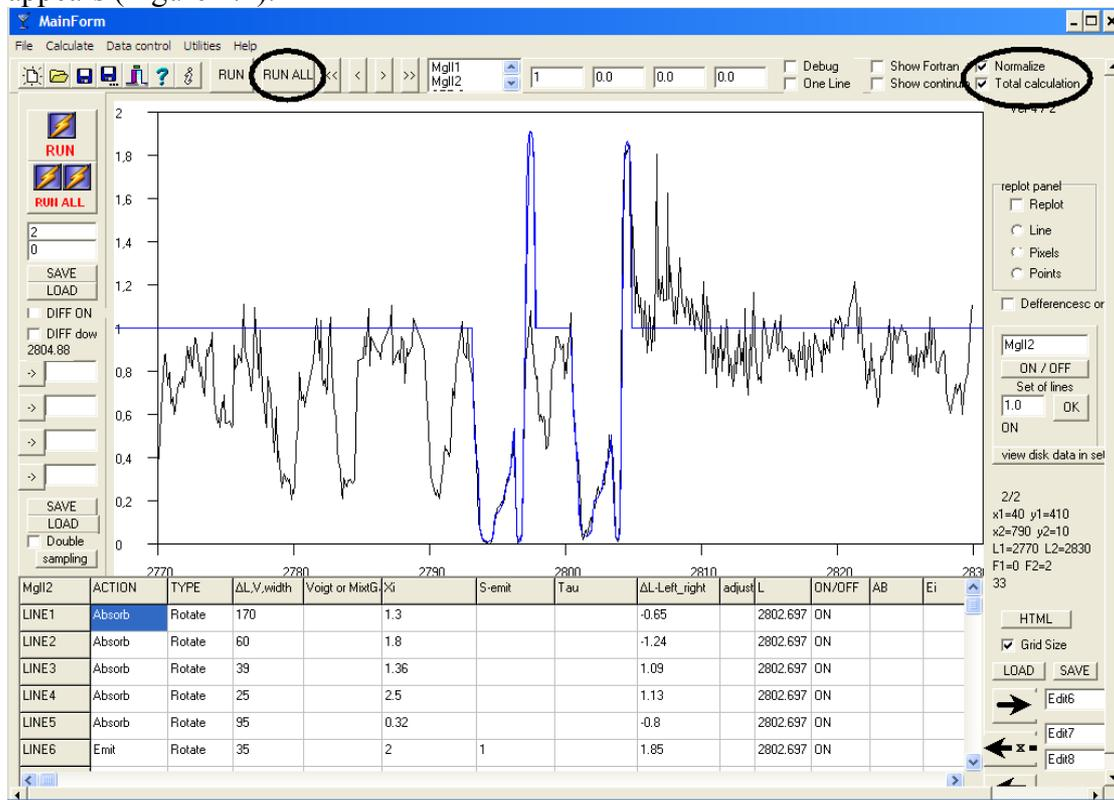

Figure 4.1
Step 2: Activate **Normalize** and **Total calculation**. Click on the **RUN ALL** button, so that the program makes the calculations and the theoretic profile of the spectral line appears (Figure 4.1).
Step 5: Activate **Normalize** and **Total calculation** and click on the **RUN ALL** button, so that the program makes the calculations and the theoretic profile of the spectral line appears. (Figure 4.1).